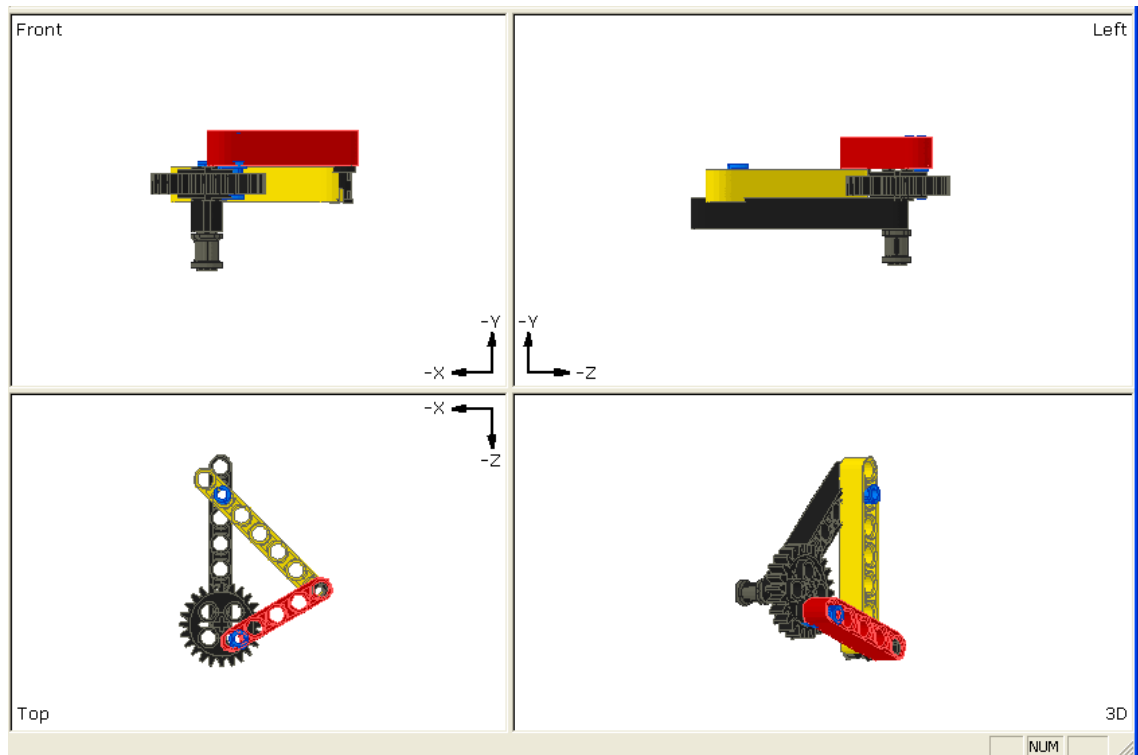

Figure 7A: After oriented the parts for the final connections, add a (final) build step
Step 7: Add another build instruction step (last one) as shown in **Figure 7A**